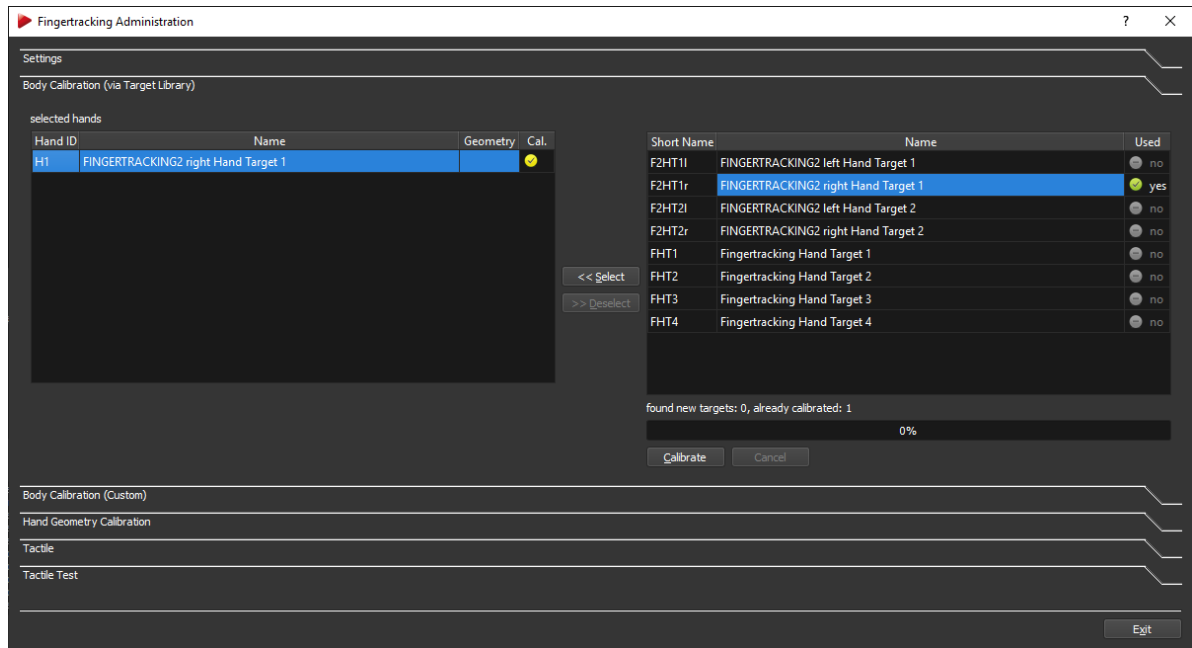

Figure 9.36: Fingertracking Administration - Body Calibration Target library
- run the target library identification by pressing *Calibrate*. The current status is shown by a progress bar while the amount of '*found new targets*' is listed (see bottom right in figure 9.36 on page 124).